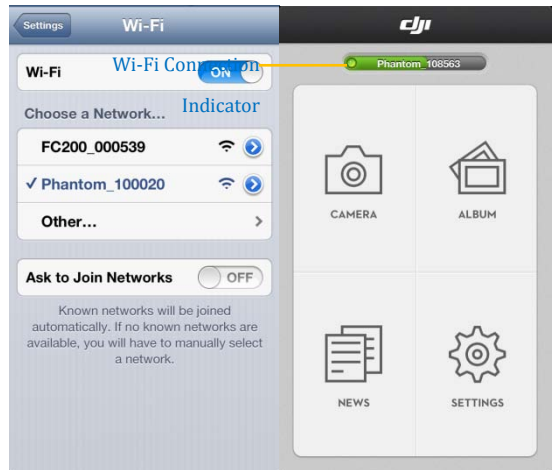

Fig.3
4. (Fig.1) Run the DJI VISION App->Settings->General->Binding. (Fig.2) Select 'Scan the QR Code' to scan the camera QR code on the product packaging. (Fig.3) Get the camera SSID (E.g. FC200_0xxxxx) and the MAC address. Users can also skip the scan and enter the camera MAC address directly (Fig.4, Fig.5), the MAC address can be found on the label on camera.
5. Tap the "CAMERA" icon and the DJI VISION Appwill establish a live camera preview (Fig.3). This means everything is now functioning.